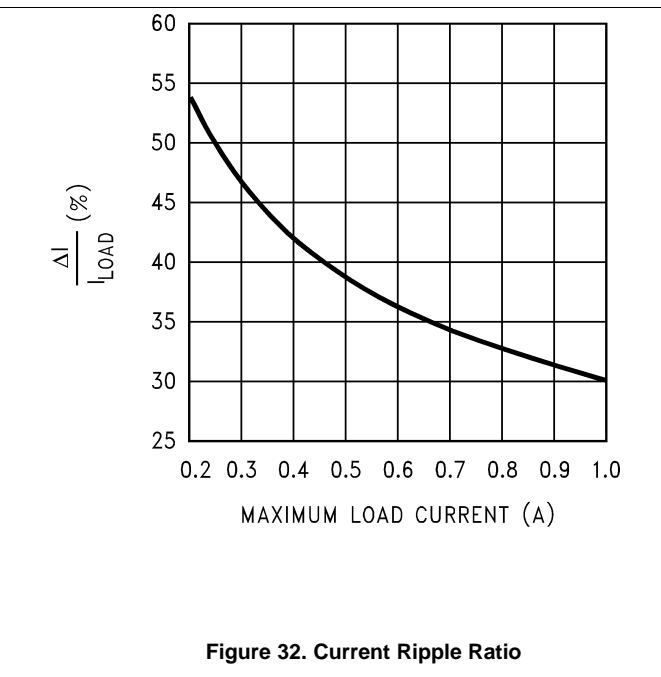

Figure 32. Current Ripple Ratio
4. The nomographs were generated by allowing a greater amount of percentage current ripple in the inductor as the maximum rated load decreases (see Figure 32). This was done to allow smaller inductors to be used at light loads. However, Figure 32 shows only the *median* value of the current ripple. In reality there may be a great spread around this because the nomographs approximate the exact calculated inductance to standard available values. It is a good idea to refer to AN-1197 (SNVA038) for detailed calculations if a certain maximum inductor current ripple is required for various possible reasons. Also consider the rather wide tolerance on the nominal inductance of commercial inductors.